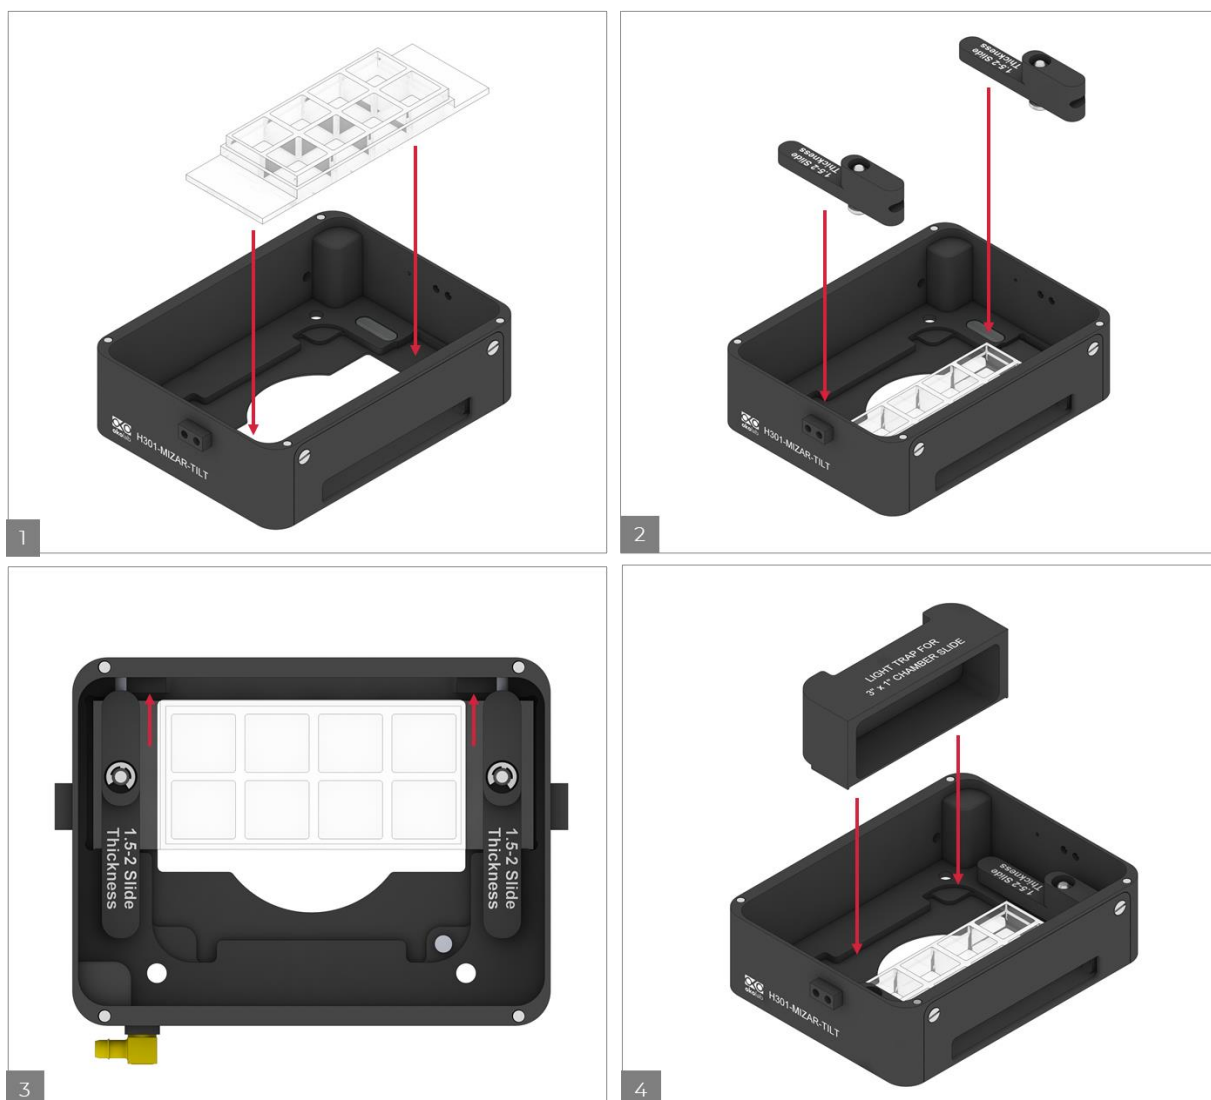

Figure 10. Working with 1"x3" chamber slide.
The 1"x3" chamber slide fits into the Chamber Base and it is held in place by the magnetic clamps in order to prevent movement inside the opening on the base. To insert the 1"x3" chamber slide, follow the steps shown in Figure 10 and listed below:
1. Insert the 1"x3" chamber slide into the Chamber Base (see image 1 in Figure 10).
2. Place the magnetic clamps over the 1"x3" chamber slide (see image 2 in Figure 10), then push down the head of the clamps simultaneously and move it in the direction shown in the image 3 of Figure 10.
3. Insert the Light Trap into the Chamber Base as shown in image 4 in Figure 10.